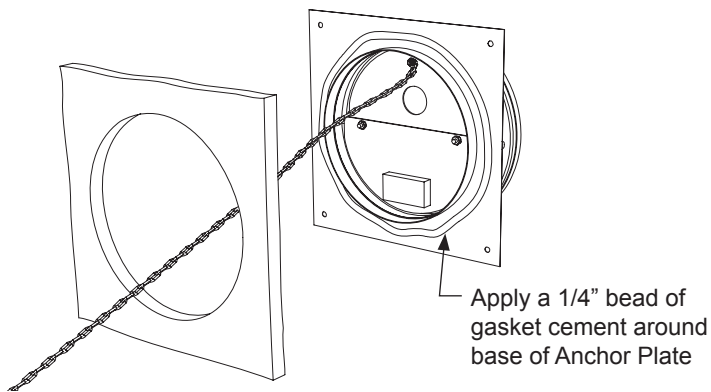

Figure 47 - Apply Gasket Cement to Anchor Plate
14) Finally, set the Dome Top into position (Figure 47, page 27). Be sure that it is flush in every direction as you place it on the crest of the smoke dome wall assembly. After this is done, proceed to section on Installing Damper and Chimney System on page 28.
Apply a 1/4" bead of gasket cement around the base of the Anchor Plate as shown in Figure 47. Apply a 1" thick ceramic fiber blanket to the gasket cement (Included).